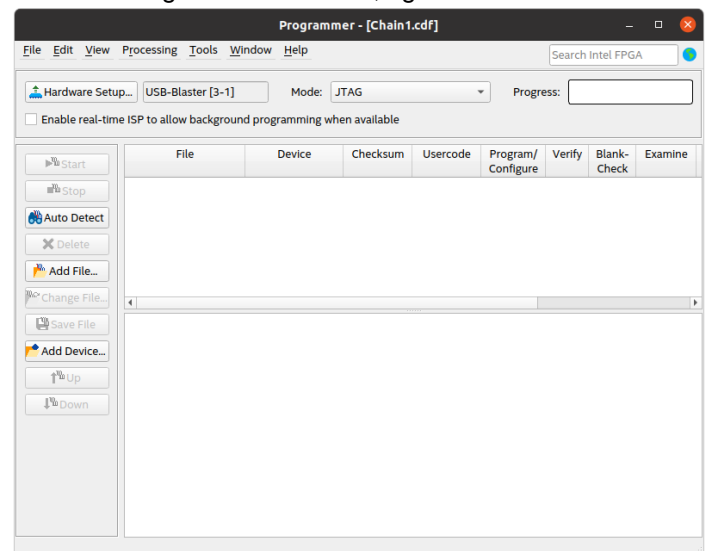

Fig. 2. The 'Programmer' window.
- In the upper-right corner, near the drawn arrow, click the 'Programmer' icon. You will then get a new window, fig. 2: